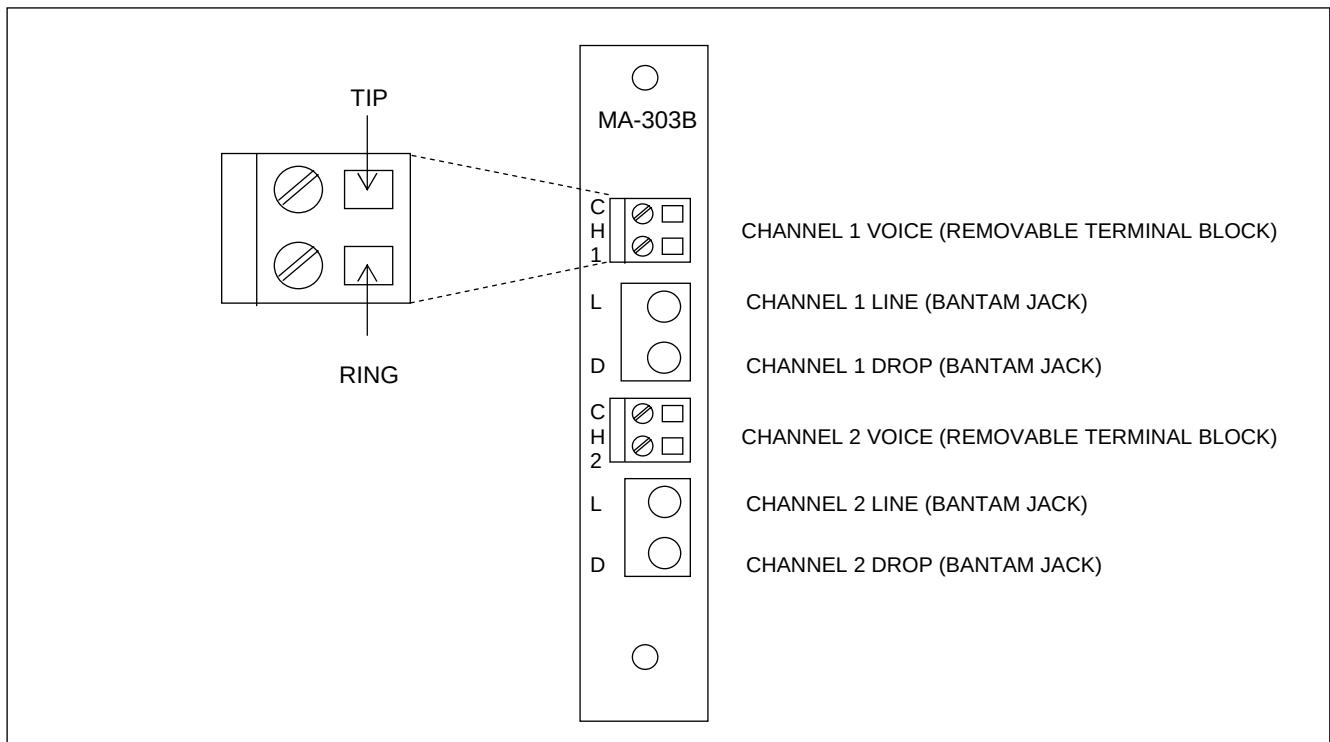

Figure 4. MA-303B Module Adapter, used with all RFL VF-16B station end modules. The MA-304B Module Adapter is similar in appearance.
The MA-303B is similar to the MA-303, except it has removable terminal blocks in place of the RJ-11 connectors for the voice connection. (See Figure 4.)
- If an MA-303B or MA-304B Adapter is being used, connect the voice channels to the terminal blocks (TIP is the top terminal and RING is the bottom terminal). Connect to the bantam jacks for the LINE and DROP channels as shown in Figure 4.